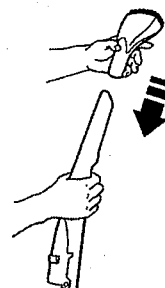

Figure 12
3. Slide the Tool into the top of the Cleaning Wand. (See Figure 12.)